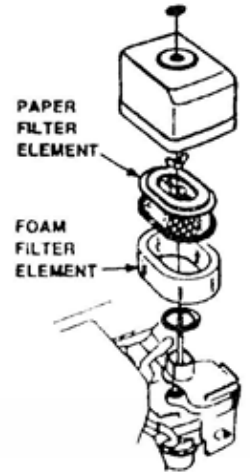

Figure 1 Air Filter
2. To clean or replace air filter loosen the wing nut on the air filter housing(Figure 1), remove the cover and take out air filter cartridge. If only cleaning of the air filter is desired blow through the air filter cartridge from the inside, moving a jet of dry compressed air up and down until all dust is removed.